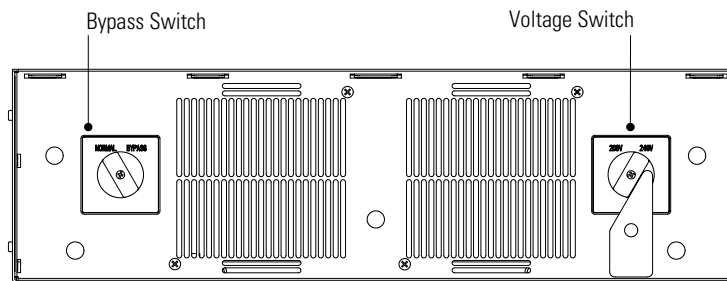

Figure 14. PDM (with Front Cover Removed)
3. Verify that the bypass switch on the PDM is in the NORMAL position (see Figure 14).
4. **Changing the PDM voltage switch setting.** All high voltage outlets, except the L14-30, use the UPS output voltage. The L14-30 and all low voltage receptacles use the PDM transformer, and the voltage switch determines the voltage. See Table 3 for a complete list of PDM input/output voltage settings. Figure 14 shows the voltage switch.